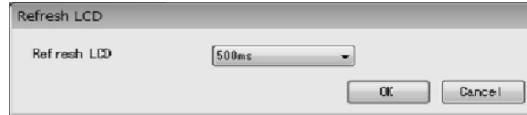

Fig.76
- ① Click the "Setup (S)" menu, and then select and click "Refresh LCD" from the "LCD" drop-down list.
- ② The following window will be displayed (Fig. 76). Set the display update frequency for displaying measurement values on the LCD here.